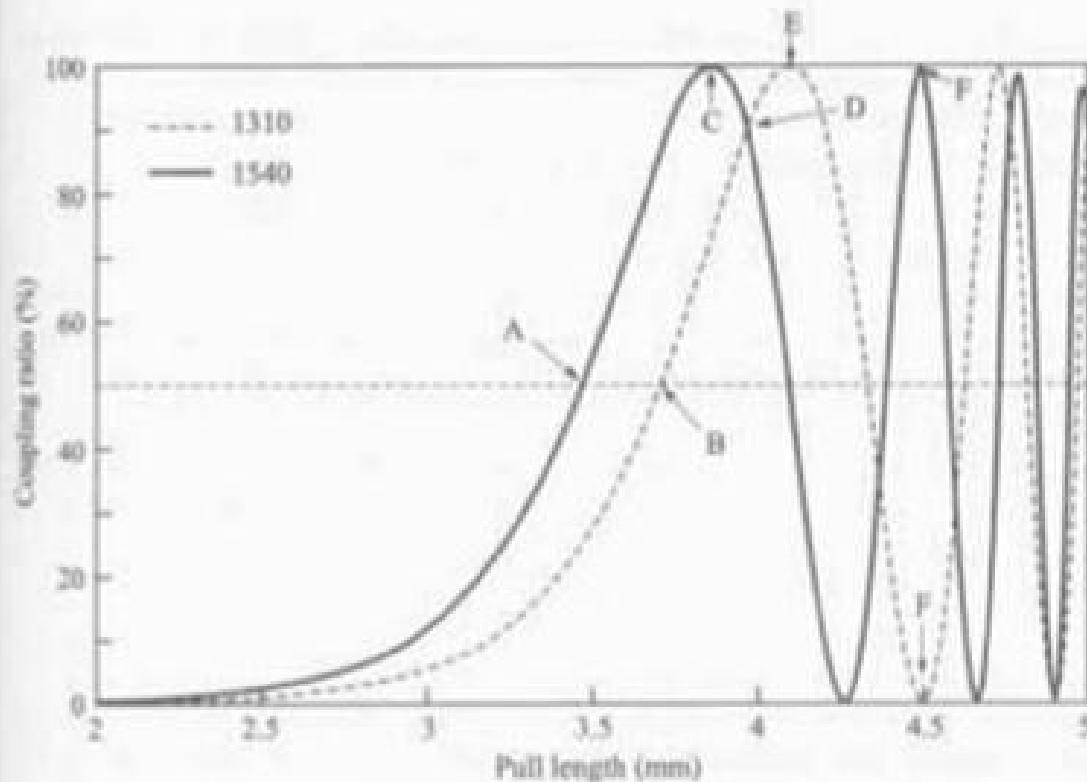

FIGURE P10-3
- 10-3. Consider the coupling ratios as a function of pull lengths as shown in Fig. P10-3 for a fused biconical tapered coupler. The performances are given for 1310-nm and 1540-nm operation. Discuss the behavior of the coupler for each wavelength if its pull length is stopped at the following points: A, B, C, D, E, and each F.